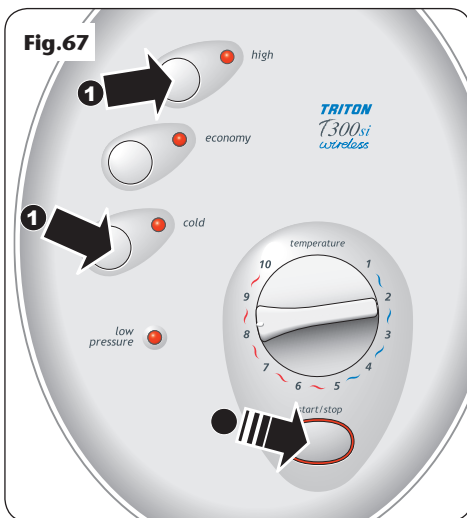

Fig.67
With the remote pack emitting a continual tone, simultaneously press and hold the HIGH (1) and COLD (1) buttons and then press and release the Start/Stop button (2) (Fig.67).